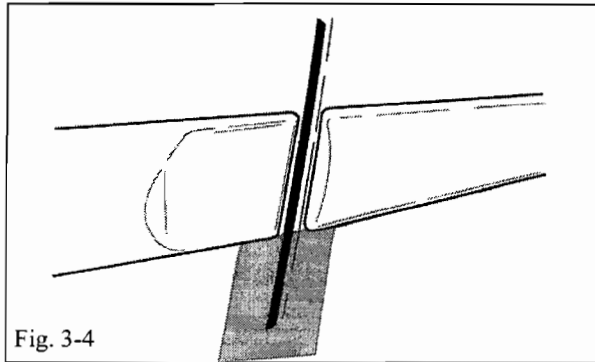

Fig. 3-4
- (c) Repeat steps 3-a and 3-b for the RH rear door molding as shown in Fig. 3-3 and Fig. 3-4.